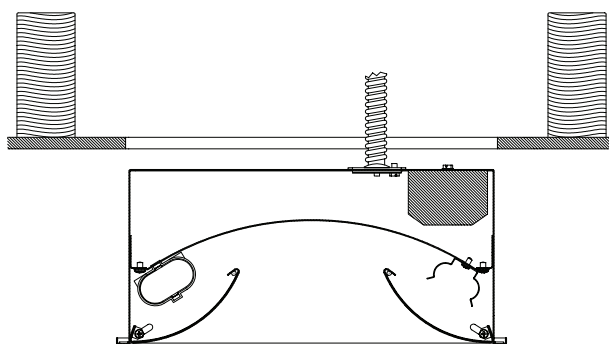

FIGURE 2
2. CONNECT POWER TO LUMINAIRE VIA ACCESS PLATE LOCATED ON TOP OF HOUSING. (FIGURE 2)